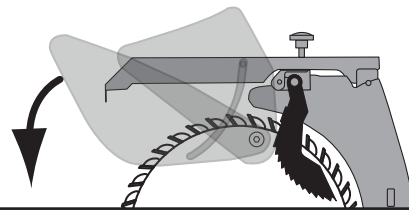

Figure 73. Typical ripping operation.
10. Use a push stick to feed the workpiece through the saw blade, as shown in **Figure 73**, until the workpiece is completely beyond the saw blade.